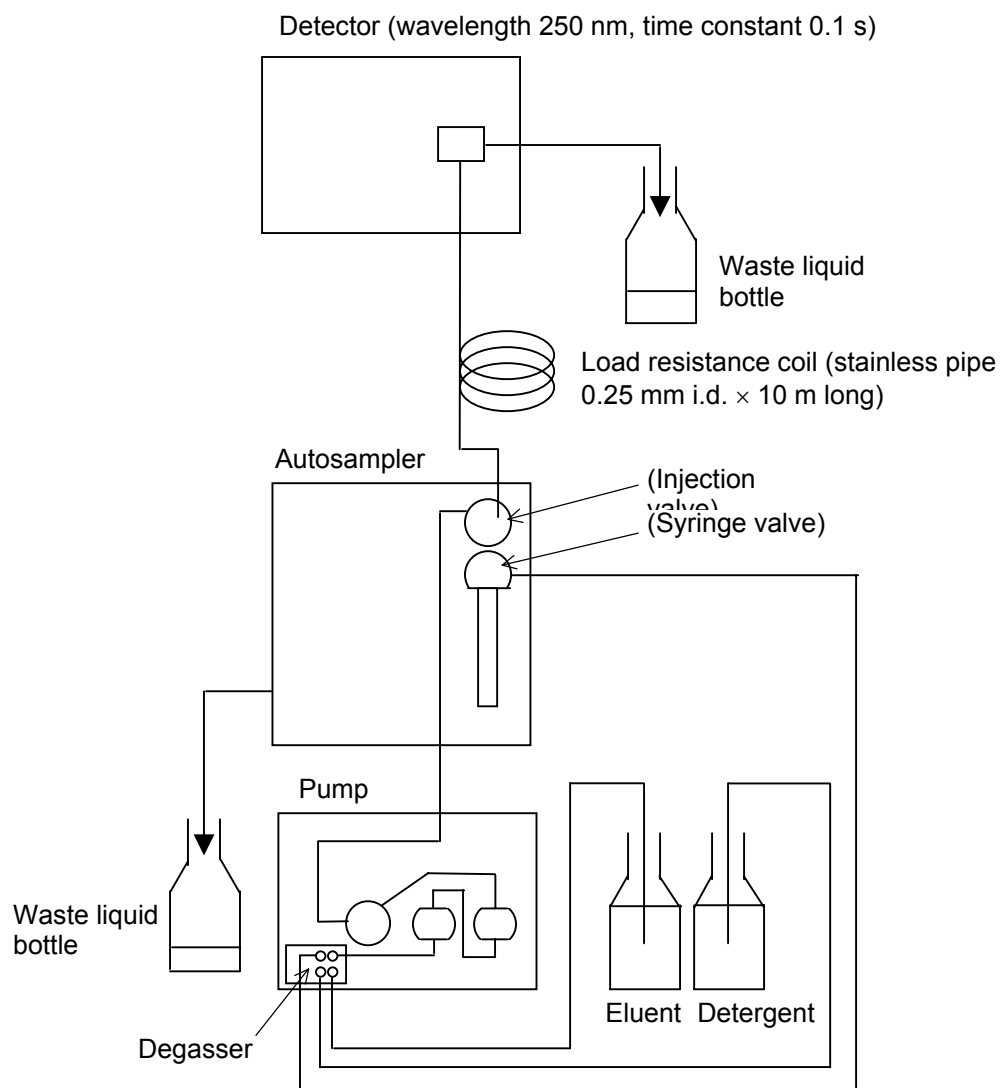

Fig. 5-1 Flow Path Diagram
- (1) Figure 5-1 shows how to connect the units for performance check. According to this figure, carry out tubing. Before energizing the system, ensure that the tubing between the autosampler and pump/detector is properly connected.